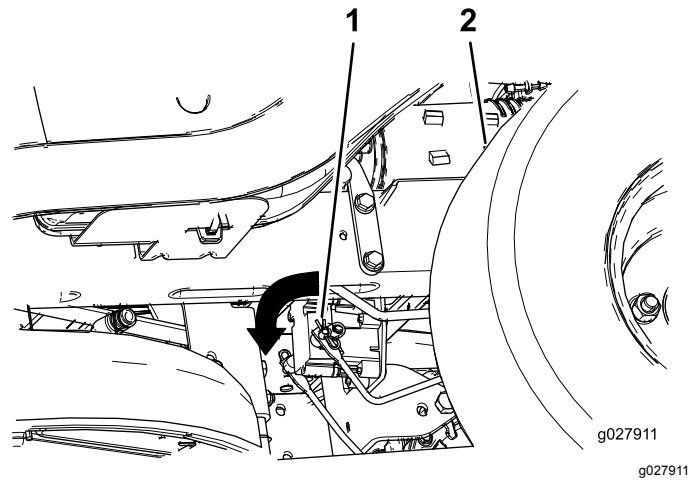

Figure 45
2. Locate the shafts where the brake-link arms are connected on both sides of the electric brake (Figure 45).